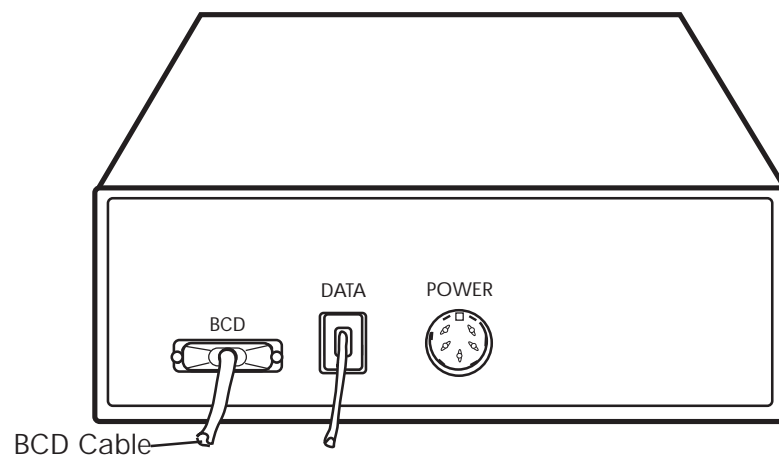

Figure 2-6 Connecting Optional BCD Cable
1. Connect one end of the BCD cable to the port marked BCD on the rear panel of the Bus SAT/IN module (Figure 2-6).